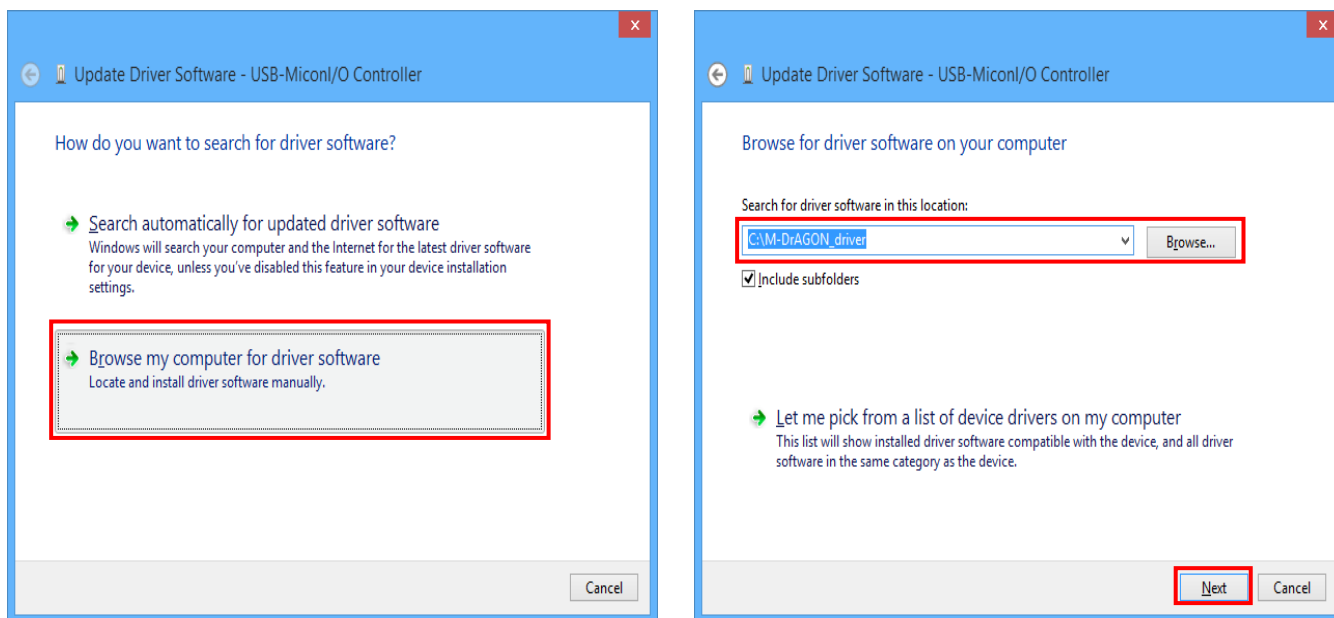

Figure 9. USB-MiconI/ O Controller-1
- (7) Select "Browse my computer for Driver software" option as the left in figure 9.
- (8) Select "**M-DrAGON_driver.inf**" located in the "M-DrAGON_driver" folder and click "Next", then the installation is started.